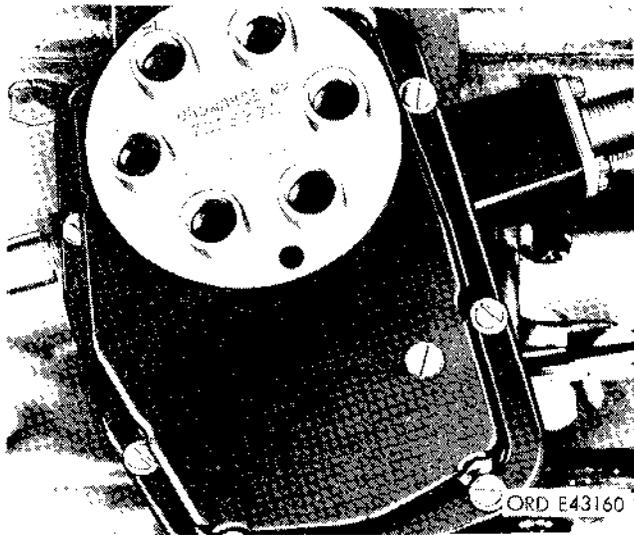

Figure 2-146. Distributor assembly with cover attached.
(4) Install a new mounting gasket on top of the distributor drive housing (9), and position the distributor and coil assembly (4) on the housing, engaging the coupling at the lower end of the distributor shaft with the coupling on the upper end of the drive shaft inside the housing.
(5) Position the two distributor mounting clamps (8) on top of the drive housing, and secure them with the two capscrews (1) and lockwashers.
(6) Adjust the breaker point gap ($d(l)$ below).
(7) Install the rotor on the breaker cam, position the distributor cover on the housing being sure that the cover gasket is in place, and secure the assembly with eight screws and lockwashers (fig. 2-146).
(8) Position the distributor primary wire (3) at
(9) Position the distributor vent line (6) at the elbow on the front of the distributor, and tighten the nut (5).
(10) Insert the ends of the spark plug cables in the cable sockets (corresponding to spark plug numbers in the distributor cover) (fig. 2-146), and tighten the connectors.
(11) Check the ignition timing, and correct it if necessary (para 2-120).